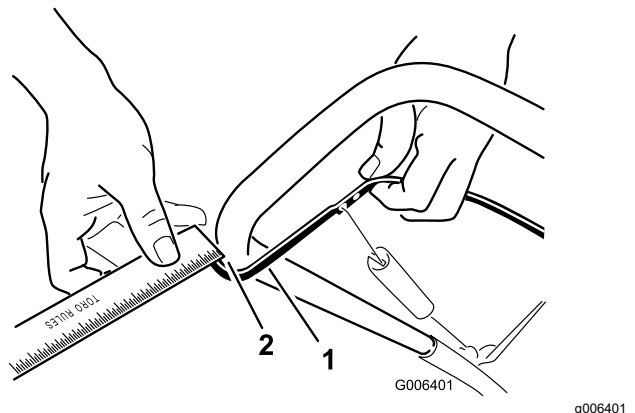

Figure 21
Note: Ensure that a 2 to 3 mm (1/16 to 1/8 inch) gap exists between the control bar and the handle (Figure 21).
Move the control bar back toward the handle to remove the slack in the control cable (Figure 21).
2. Move the Z-fitting to a higher or lower hole on the adjuster link as needed to obtain the 2 to 3 mm (1/16 to 1/8 inch) gap between the control bar and the handle (Figure 21).